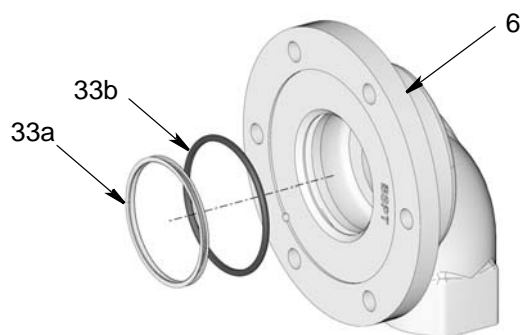

FIG. 36
- a. Use a pick to remove the damaged white seal (33a) and black o-ring (33b) from the inlet assembly (6) (FIG. 36).